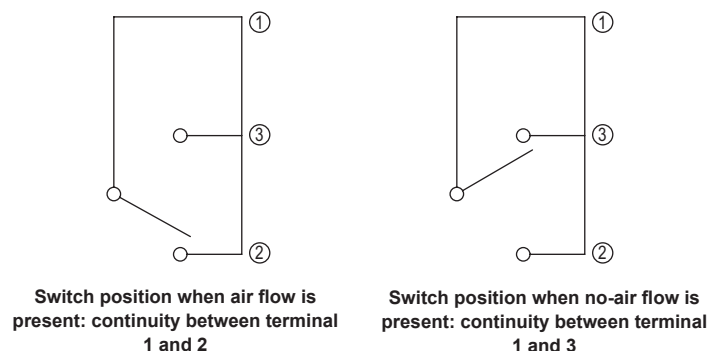
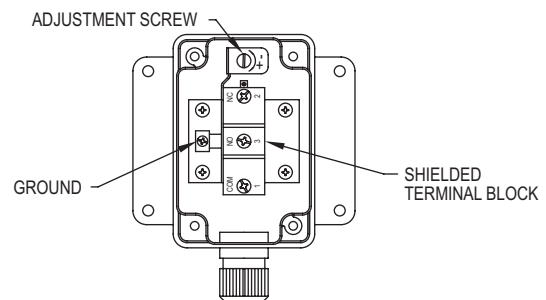

Figure 1
Figure 2
4. To make electrical connections, loosen the retaining screws and remove the conduit enclosure cover. See Figure 2. The SPDT snap switch has screw terminals marked common, normally open and normally closed. A ground screw is also provided. On decreasing flow, the normally open contacts will close and the normally closed contacts will open as the set point is passed. See Figure 1.
5. To adjust set point, turn the flat-head screw located under the enclosure cover. Rotate clockwise to increase setting or counter-clockwise to decrease. See Figure 2.